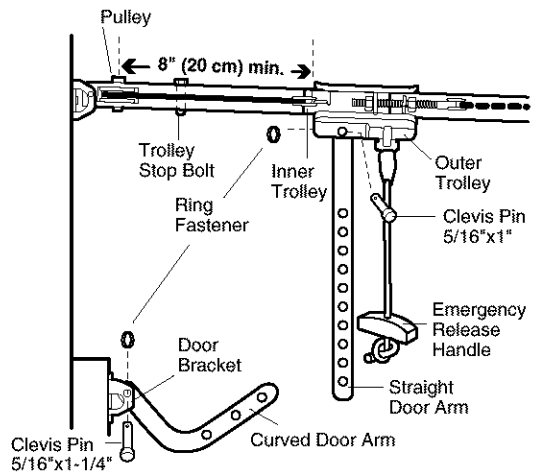

Figure 1
- Make sure garage door is fully closed. Pull the emergency release handle to disconnect the outer trolley from the inner trolley. Slide the outer trolley back (away from the pulley) about 8" (20 cm) as shown in Figures 1, 2 and 3.
#### • Figure 1: